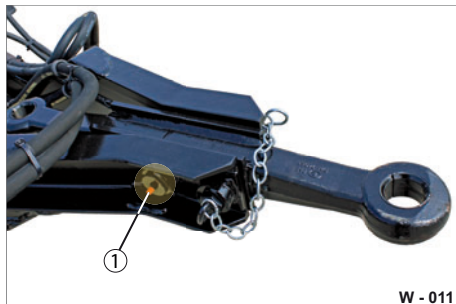

Fig. 10 Lubricating swivel axis
- ▶ Lubricate the swivel axis on the lubrication nipple (Fig. 10/1) with a grease gun until lubricant escapes.